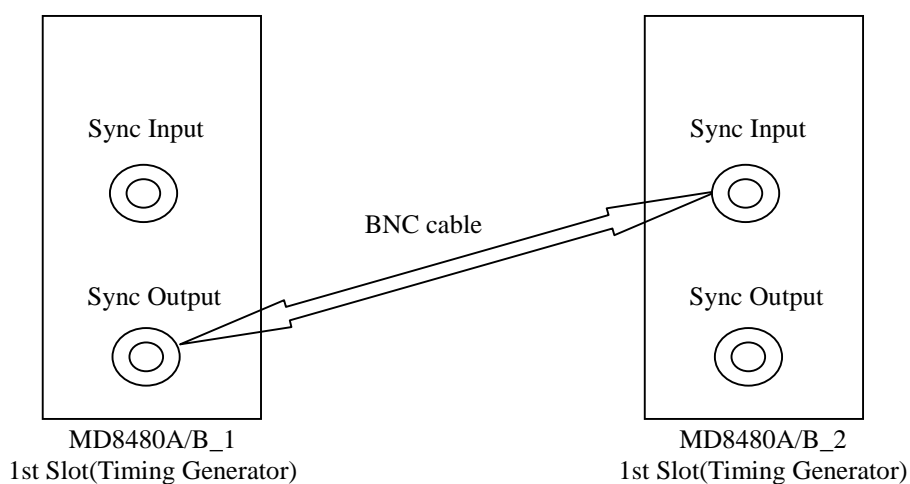

Figure C-9 BNC cable connection
- (3) Connect MD8480A/B\_1(Sync Out connector) and MD8480A/B\_2(Sync In connector) with BNC cable.(Refer to Figure C-9.)